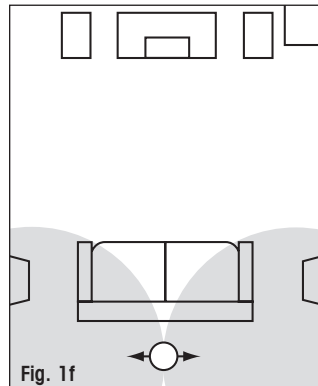

Fig. 1f
7.1 Rear Placement Using One Speaker (Fig. 1f)